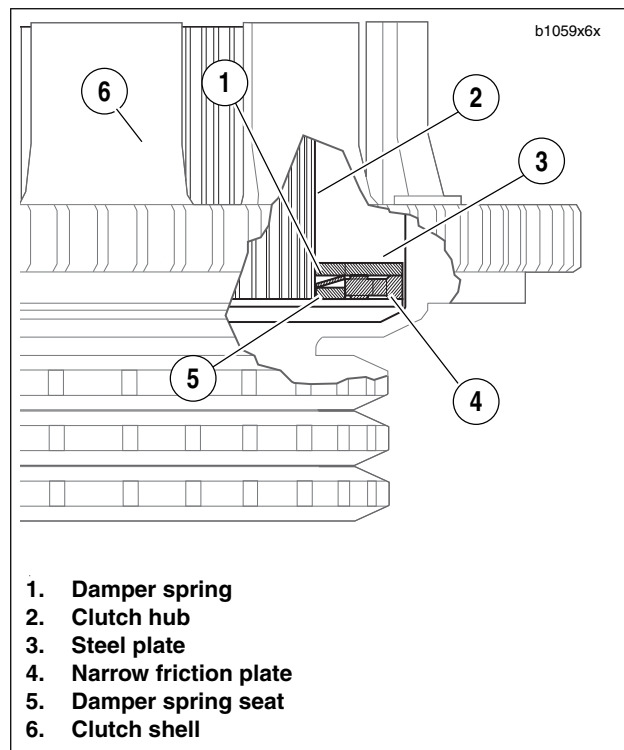

Figure 6-19. Clutch Pack Stack-Up (Cut-Away View)
3. See Figure 6-19. Install damper spring seat (5) on clutch hub so that it seats inboard of narrow friction plate (4).
4. Install damper spring (1) on clutch hub with the concave side up (facing opposite damper spring seat).